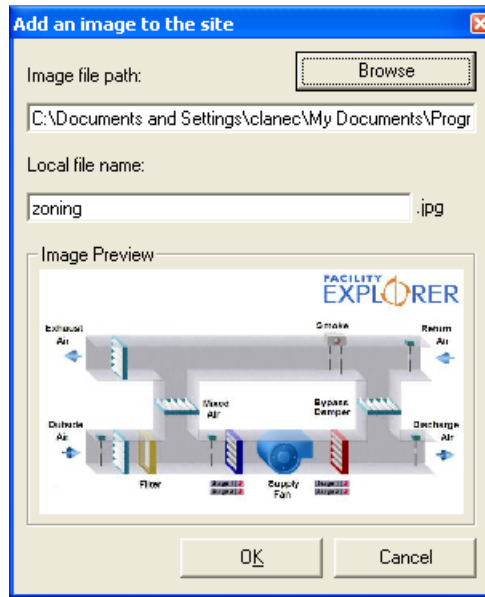

**Figure 204: Importing an Image (Part 1)**
1. Right-click the Web Site root and select Image Manager (Figure 204). The Image Manager allows you to locate images by browsing your computer (Figure 205).